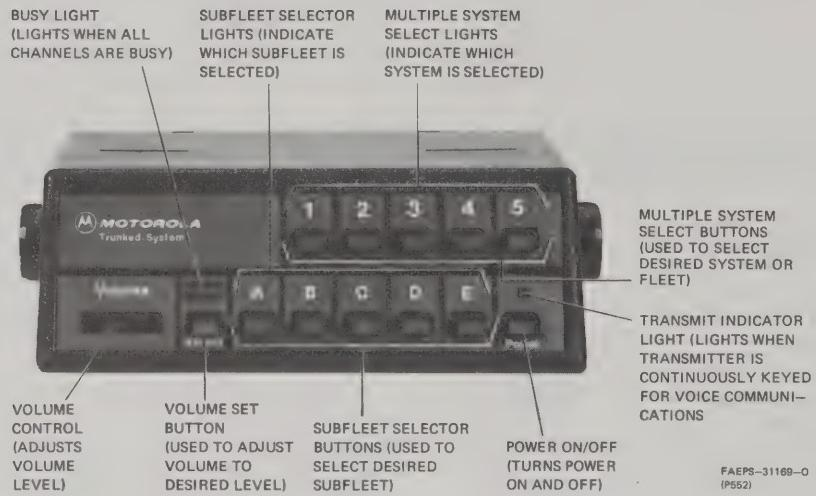

Figure 1. Trunked SYNTOR X Control Head with Multiple System Select Option W305AD and Five Subfleet Select and Volume Set Options
The multiple system select board mounts inside the control head housing. The five system select pushbuttons and associated indicator lights mount at the top front of the control head as shown in Figure 1.
(Refer to Figure 1.)
Figure 1 shows a trunked control head with the volume set and five subfleet option in addition to the W305AD multiple system select option. With this combination, an operator may select any one of up to five subfleets or five fleet/subfleet combinations in any one of five systems.
2. OPERATING PROCEDURE (Refer to Figure 1.)